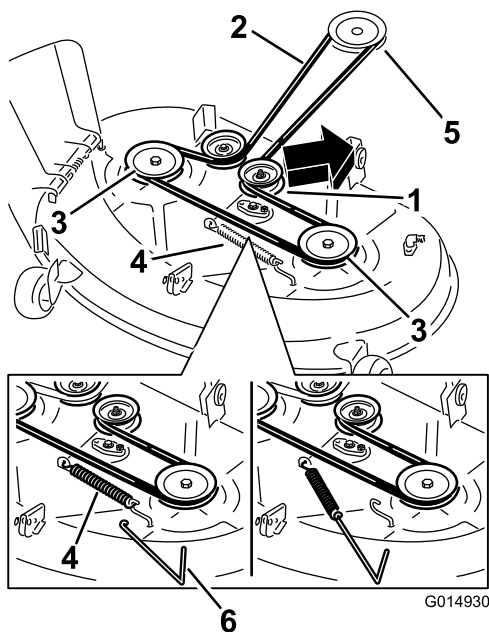
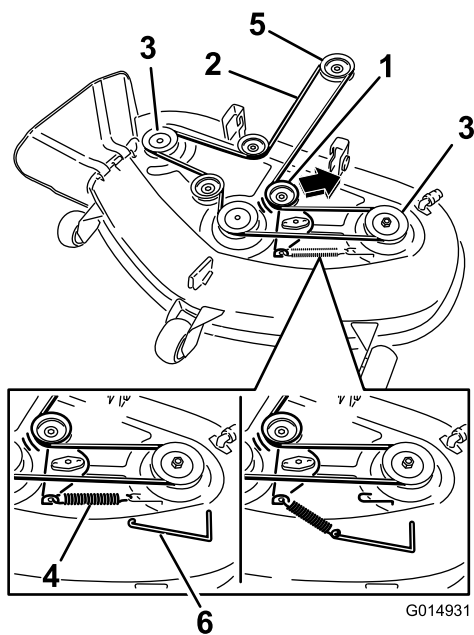

Figure 66
Figure 67
6. Using a spring-removal tool, (Toro part no. 92-5771), remove the idler spring from the deck hook to remove tension on the idler pulley, and roll the belt off of the pulleys (Figure 66 and Figure 67).
7. Route the new belt around the engine pulley and mower pulleys (Figure 67).
8. Using a spring-removal tool, install the idler spring over the deck hook, and place tension on the idler pulley and mower belt (Figure 66 and Figure 67).